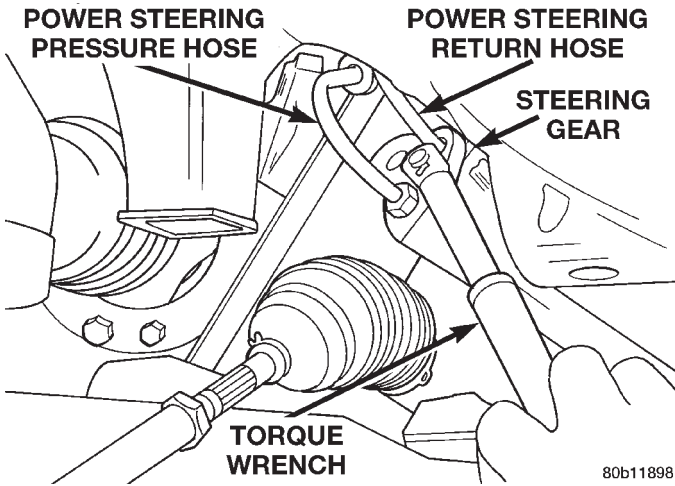

Fig. 30 Torquing Power Steering Fluid Hose Tube Nuts
(4) Install the power steering fluid return hose on the steering gear. Then using a crow foot and torque wrench (Fig. 30) tighten the tube nut to a torque of 31 N·m (275 in. lbs.).